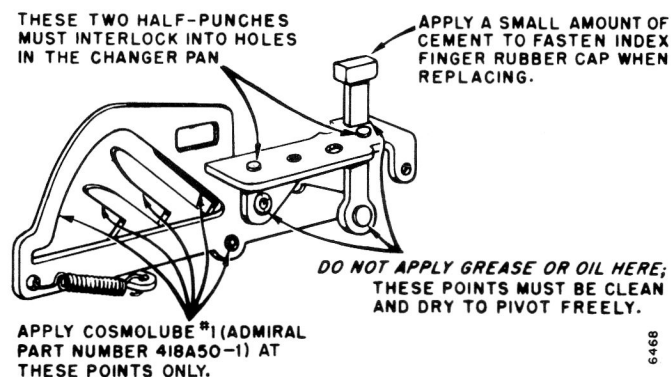

Figure 8. Set-Down Index Assembly.
Before lubricating the set-down index (74), refer to figure 8. Grease or oil must not exist at certain points on the set-down index.
Although the set-down index (74) is factory assembled and requires no adjustment, some care is required when it is being replaced. The top surface of the set-down index bracket mounts to the changer pan and is positioned by two 1/8 inch diameter half-punches which interlock in holes in the changer pan. A #6-32 machine screw secures the set-down index in place. See figure 8.
2. Check for binding in set-down index assembly (74).
3. Check that the set-down index bracket properly interlocks with changer pan. See figure 8.